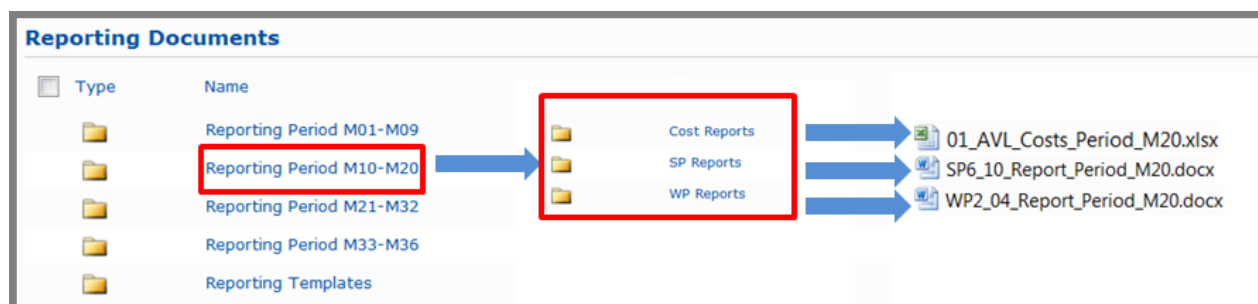

Figure 5-4: Reporting documents
3. For reporting the costs, download the Excel-Template from the folder "Reporting Templates". Fill in all required fields and upload it in the dedicated Reporting Documents (see Figure 5-4). Please respect the naming conventions stated in Section 3.3.4. Note: For your convenience, you can also find the eligible costs for the entire project duration as stated in the Technical Annex and the reported costs for all previous reporting periods in the cost template.